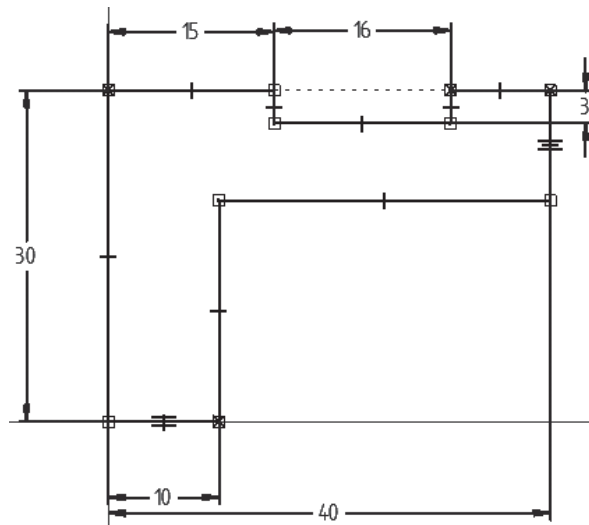

Figure 4-56 Dimensioned profile for the base feature
- Add the required relationships and dimensions to the sketch, as shown in Figure 4-56.